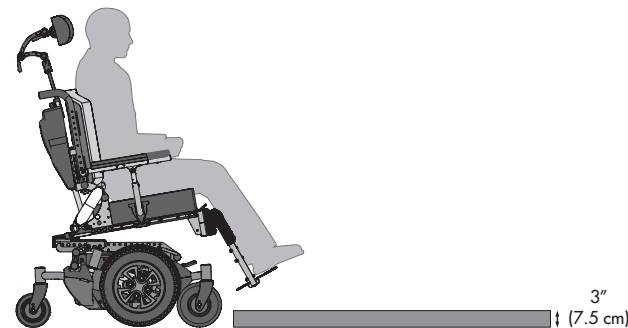

Figure 2. Never try to climb an obstacle greater than 3" (75 mm) with 8" (205 mm) casters.
Obstacles you may have to overcome daily include door thresholds, lifts, ramps and hazards such as potholes and broken pavement. (See Fig.2 below). These can damage your power wheelchair and may cause a fall, tip-over or loss of control.
3. NEVER should you try to climb a curb, single step, or other obstacle greater than 3" (75 mm) high. (See Fig.2 in **Section P. OBSTACLES**).